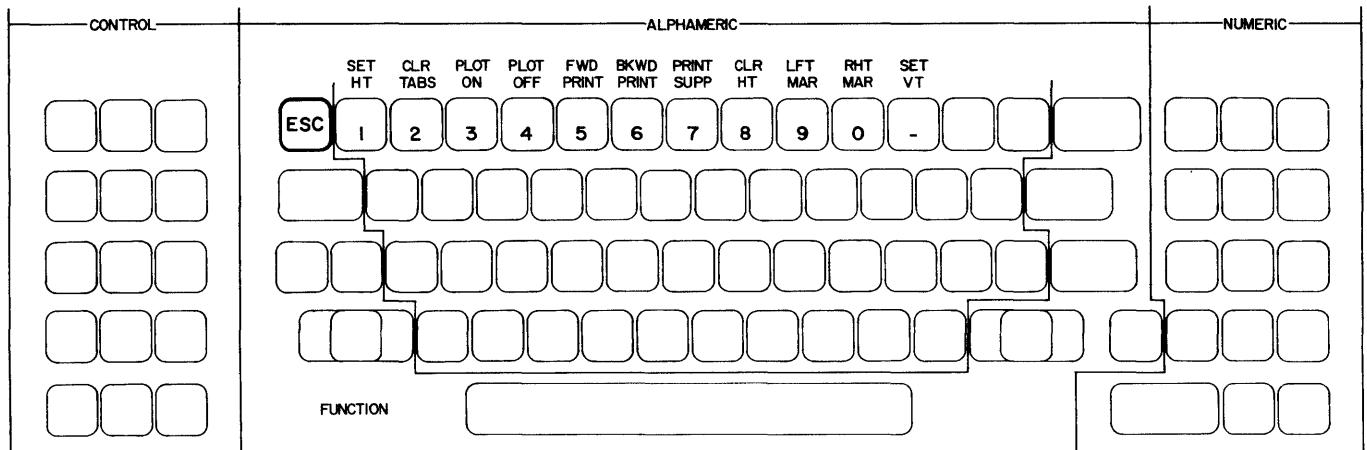

Figure 2-15 ESC MODE KEY ASSIGNMENT
- ESC - This is a control key. Once pressed, its signal redefines certain keys in the alphameric section for the next one or two characters. The affected keys in the top row are shown in Figure 2-15 and are listed below. Other affected keys are discussed in appropriate subsections following.